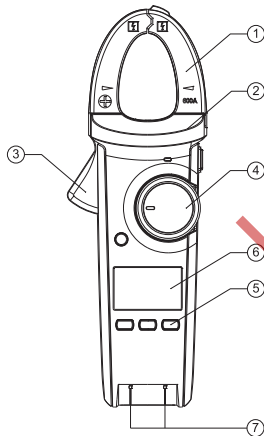

Figure 1
V. External construction (See Figure 1)
“Figure 1” indicates that batter voltage is lower than working voltage, reminding replacing battery.